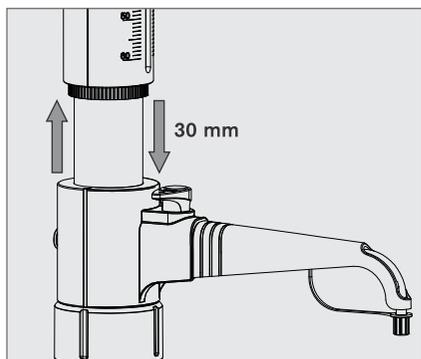

Fig.6
2. Slowly pull up the piston and push it down rapidly till the end. Repeat this process until air bubbles disappear from the cylinder. (Fig.6)
3. Slowly pull up the piston and push it down rapidly till the end. Repeat this process until air bubbles disappear from the cylinder. (Fig.6)